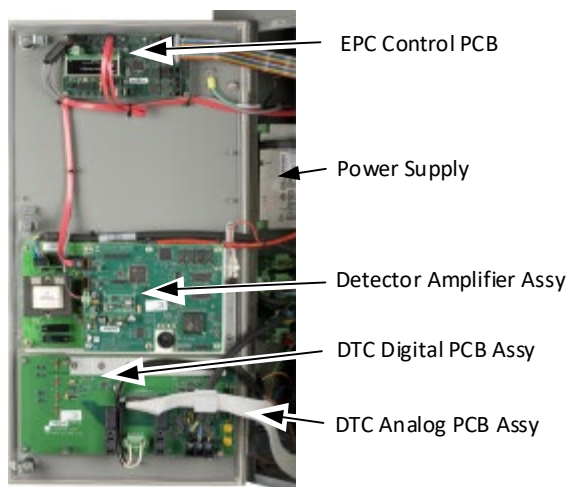

Fig. 8.8. Left Side Components
8.4.1 Left side components (see Figure 8.8)